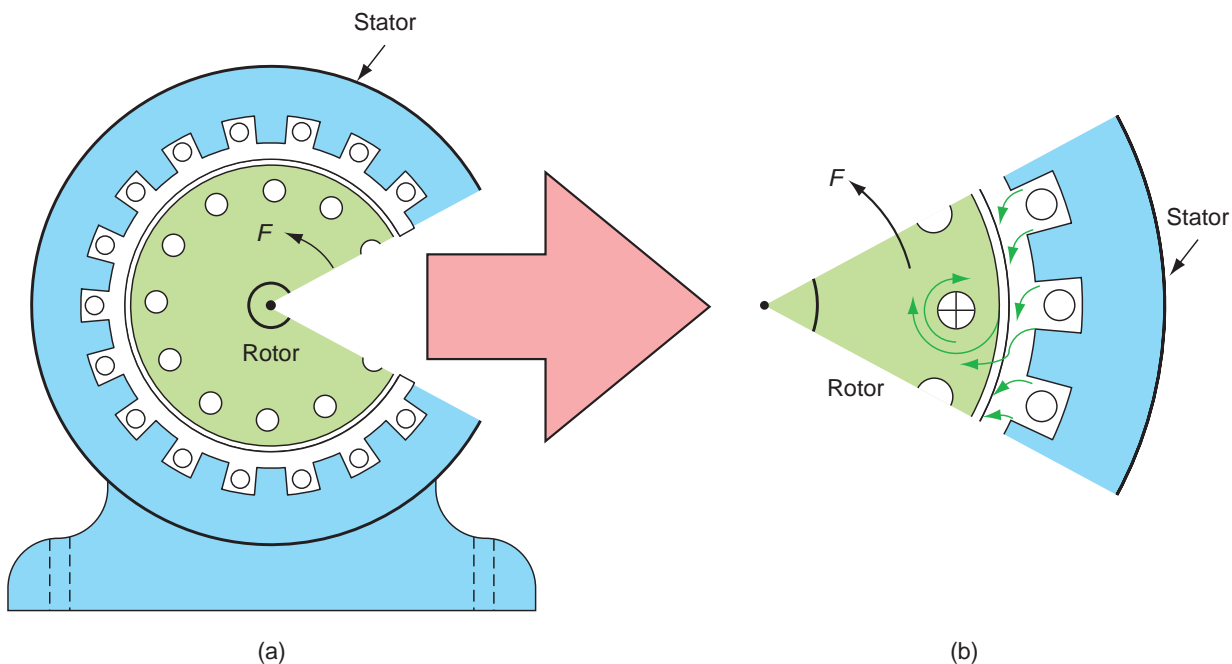

Figure 3.23 Segment taken out of induction motor.
A.C. motors are also called induction motors because of their basic principle of operation. The A.C. supply is connected to the stator windings of the motor. These are the stationary windings of the motor, like the field winding of a D.C. motor. The A.C. supply sets up a rotating magnetic field in the stator, which causes the rotor to turn. Figure 3.23 shows the magnetic flux in the stator and rotor creating the turning force or torque to drive the motor.